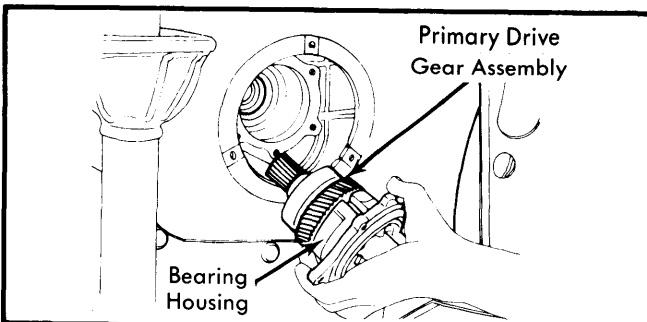

Fig. 2 Removing Primary Drive Gear Assembly
2) Remove bearing housing attaching bolts. Remove bearing housing and primary drive gear assembly through access hole. See Fig. 2. Remove upper clutch housing inspection cover. Rotate ring gear with suitable tool and loosen clutch cover attaching bolts evenly. Lift out clutch cover assembly and diaphragm spring through inspection cover opening. Remove diaphragm spring and bolts securing pressure plate straps to clutch cover. Remove disc.